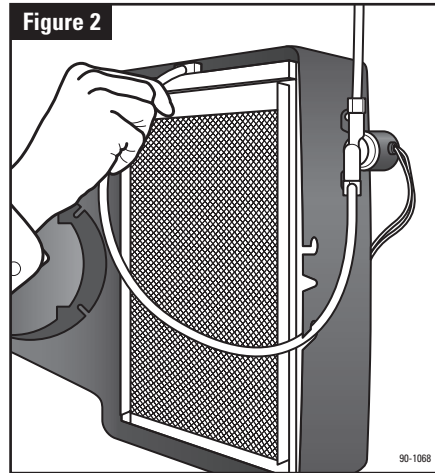

Figure 2
- feed tube back into the water distribution tray. (See Figure 2) Put the front cover back on. If the nameplate (11) is upside down, remove it by gently squeezing the tabs of the nameplate from inside the cover and pushing out. Rotate the nameplate so it is right side up, and snap back into place. Turn damper handle (8) to the open position "WINTER" for the heating season, or closed position "SUMMER" for the cooling season.